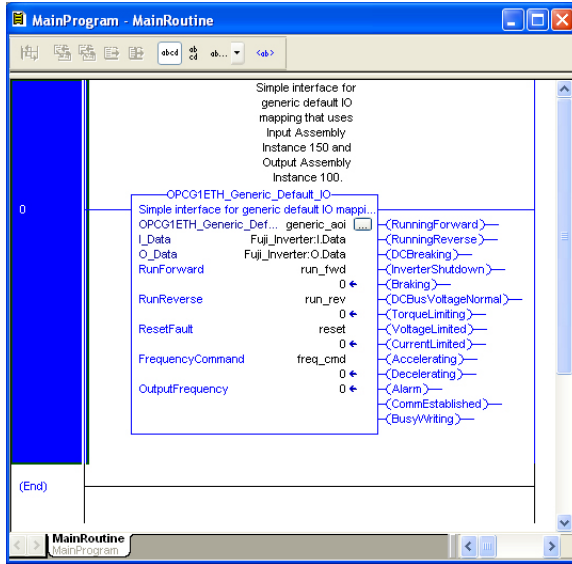

Figure 87: Configure Generic Default AOI
- 10) Edit the add-on instruction according to Figure 87.